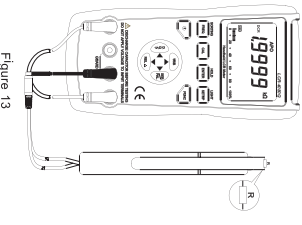

Figure 13
3) Insert the resistor into input terminals or connect the resistor to the meter using the test clamp.(See Figure 13).